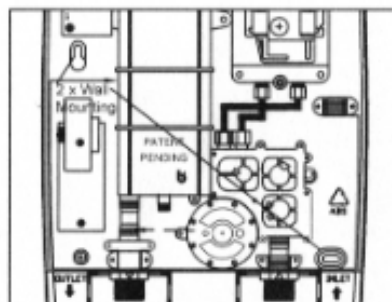

Fig. 2
2. Place the base plate on the desired mounting position, upon confirmation, mark out the position of the 2 mounting holes on the wall. (See Fig. 2)